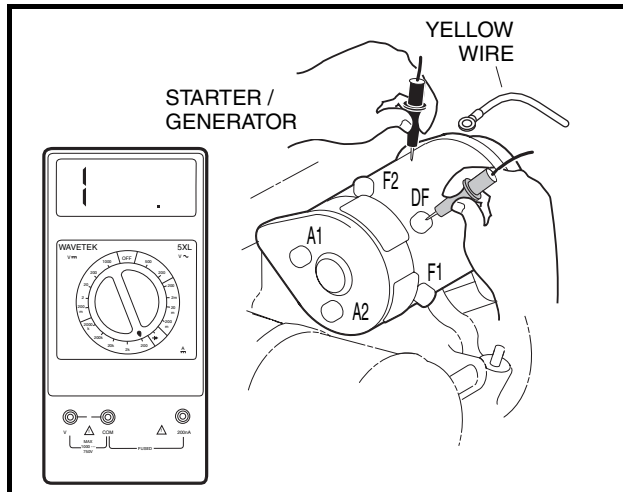

Figure 11-33 Check Starter Terminal Continuity
4. Disconnect the wires from all the terminals on the starter/generator. Then place the black (–) probe of a multimeter, set to ohms, on the starter/generator housing (scratch through the finish to ensure a good ground). While holding the black probe against the housing, place the red (+) probe (one at a time) on the A1, A2, F1, F2 and DF terminals respectively (**Figure 11-33, Page 11-29**). The readings should be no continuity. If the readings are incorrect, the starter/generator will need to be removed from the vehicle and disassembled by a qualified technician. See **Starter/Generator Removal, Section 12, Page 12-1.**